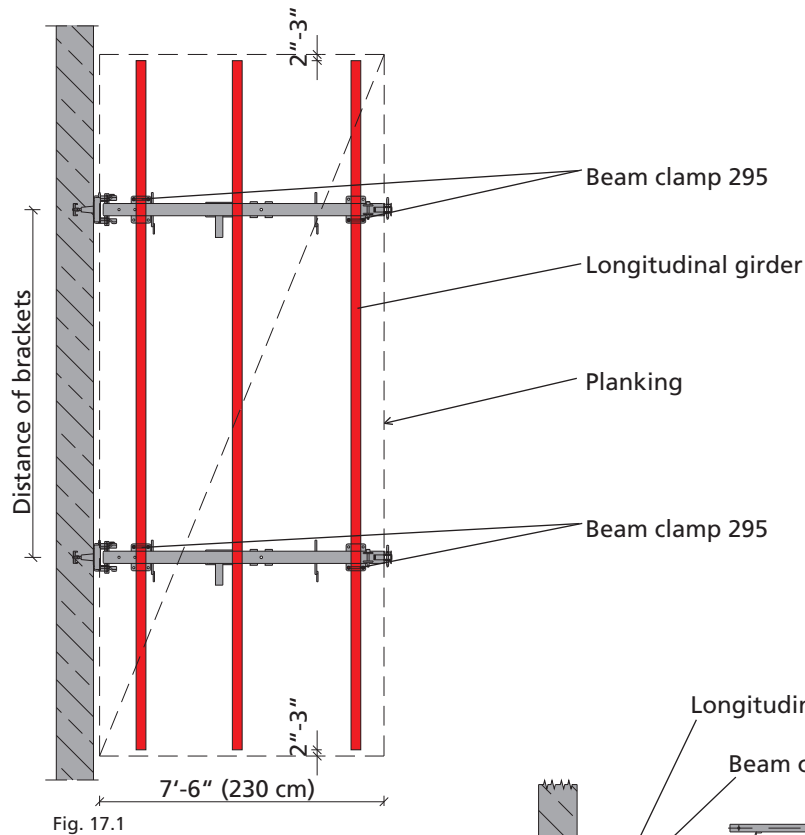

Fig. 17.1
Attach longitudinal girders to the brackets by using two (2) beam clamps 295 per bracket. The longitudinal girders (H20, aluminum or steel) should be 4" - 6" (10 - 15 cm) shorter than the whole platform. So the plywood can cantilever 2" - 3" (5 - 7.5 cm) on each side (Fig. 17.1 and 17.2).